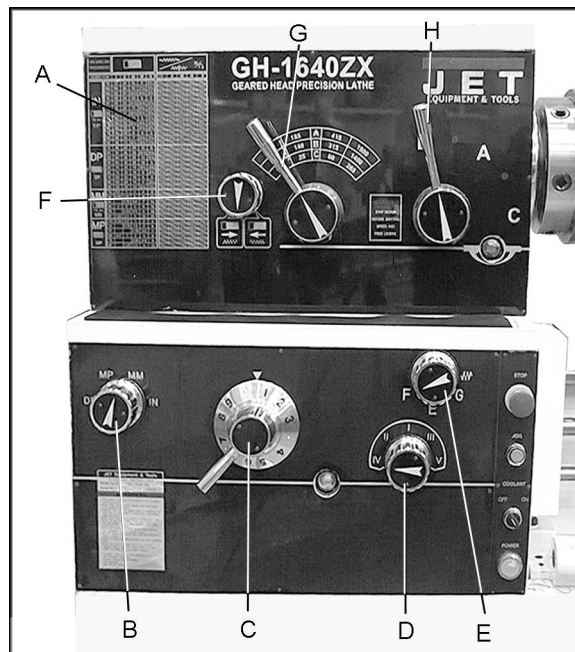

Figure 16
1. Reference the feed and thread chart on the front of the headstock (A, Figure 16).
2. Move levers and knobs (B/C/D/E, Figure 16) to the appropriate position according to the feed and thread chart.
1. Set forward/reverse lever (F, Figure 16) to desired direction.
2. Set selector levers (G/H, Figure 16) to desired R.P.M.
3. Select desired thread using levers (B/C/D/E, Figure 16).